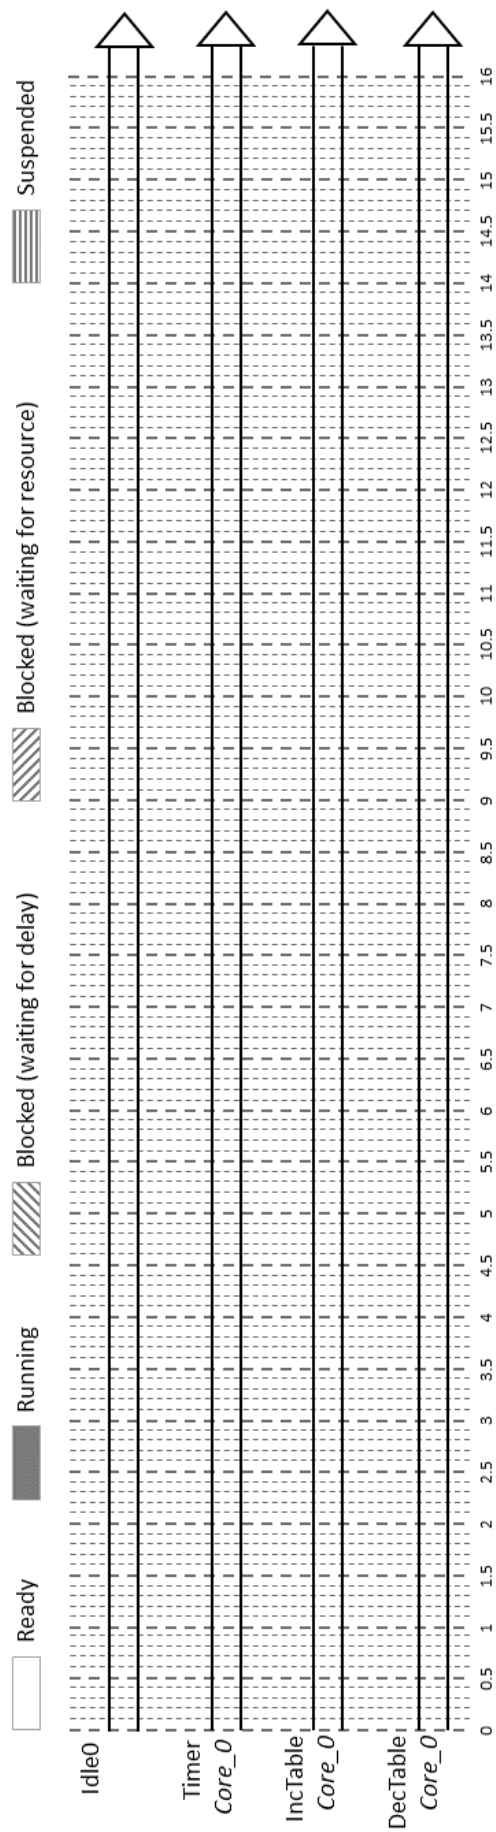

FIGURE 3.2 – Scenario 1 : Priority( $DecTable=4$ ,  $IncTable=4$ ),  $Core(DecTable=0$ ,  $IncTable=0$ ).
**Scenario 1 :** Run the program, copy the console, trace in the figure 3.2 the behavior of the 3 tasks until 160 ticks and explain the problem.